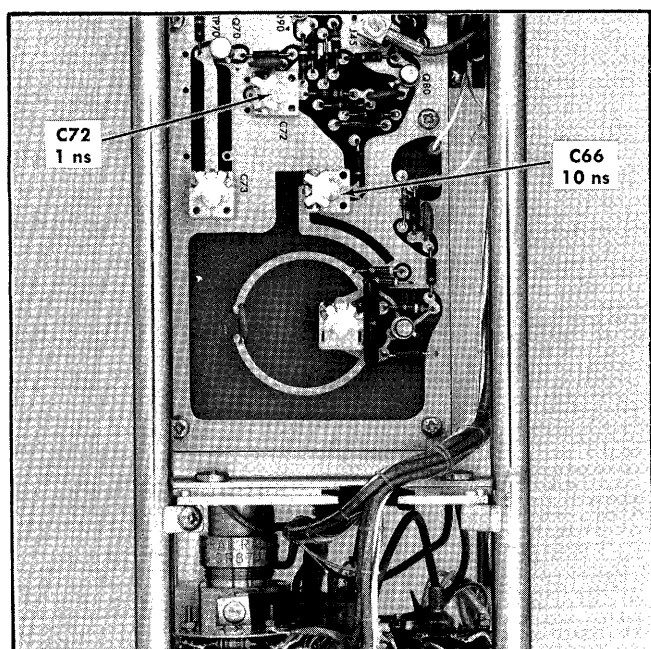

Fig. 6-20. Location of amplitude adjustments for steps 11 and 12.
c. If the peak-to-peak amplitude is not 100 mV  $\pm 20\%$  (5 cm  $\pm 1$  cm), adjust C66 (see Fig. 6-20 for location) for an amplitude of 5 cm  $\pm 1$  cm.
c. If the amplitude of the Sine Wave display is  $5 \text{ cm} \pm 1 \text{ cm}$  ( $100 \text{ mV} \pm 20\%$ ) no adjustment is recommended as a change in capacity of C72 (location shown in Fig. 6-20) especially near minimum, will affect the frequency of the 1 ns period. If adjustment of C72 is necessary to obtain a display amplitude of  $5 \text{ cm} \pm 1 \text{ cm}$ , repeat step 10.